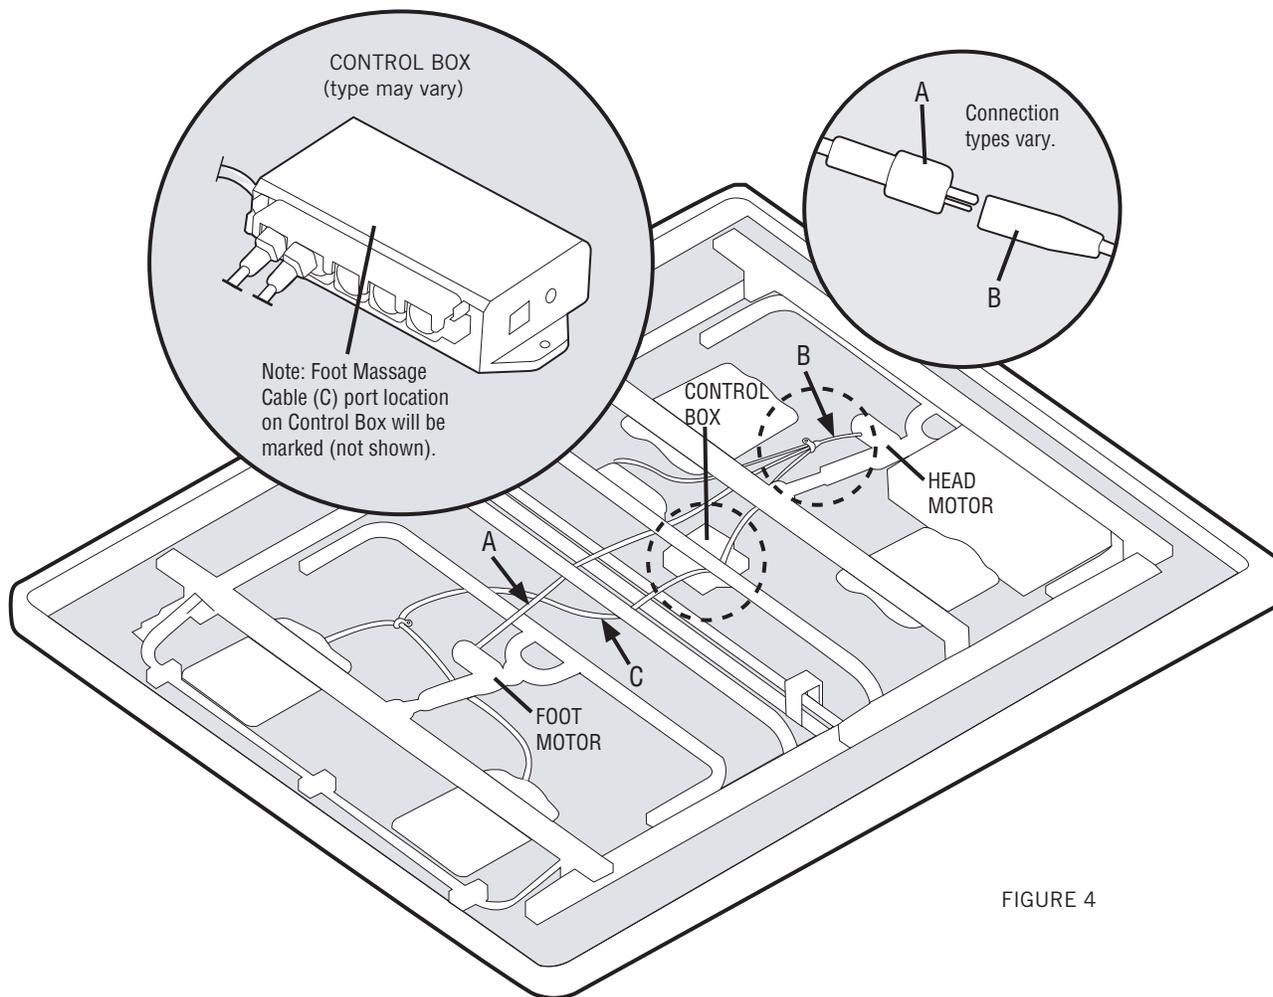

FIGURE 4
Route FOOT MOTOR CABLE (A) underneath base frame and connect to HEAD MOTOR CABLE (B) (FIGURE 4).
OPTIONAL - If massage equipped, route FOOT MASSAGE CABLE (C) underneath base frame and plug into control box (FIGURE 4).